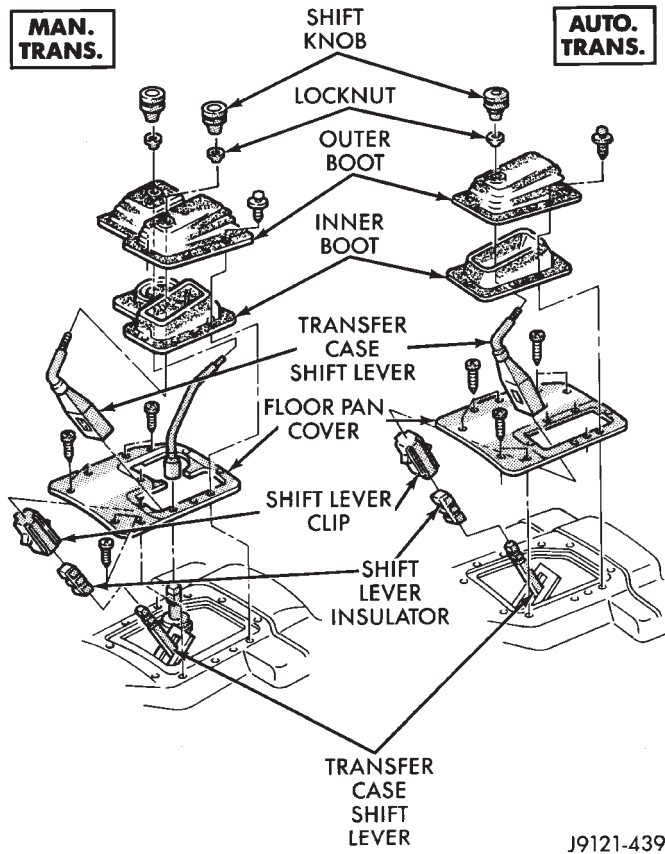
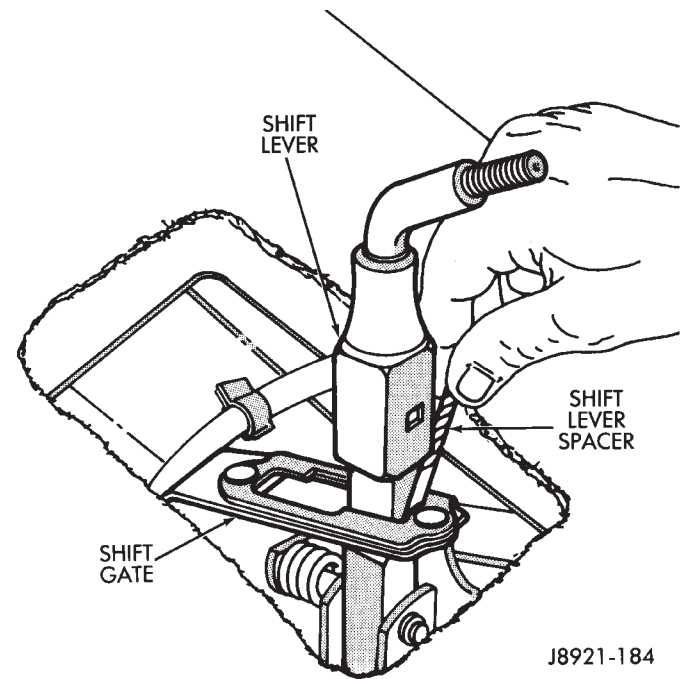
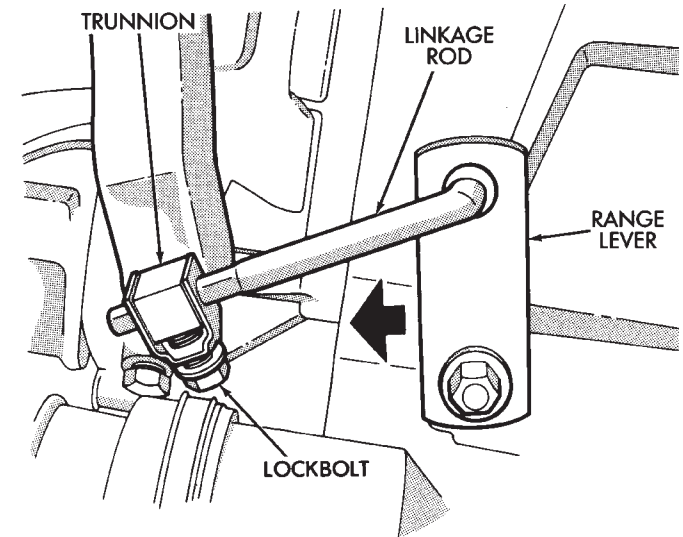

Fig. 4 Transfer Case Shift Lever And Boots—YJ
Fig. 5 Installing Shift Lever Spacer—YJ
Fig. 6 Shift Trunnion Lock Bolt Position—YJ
- (1) Remove transfer case shift knob locknut and remove knob (Fig. 4).
- (2) Remove outer boot attaching screws and remove boot (Fig. 4).
- (3) Remove inner boot attaching screws and remove boot (Fig. 4).
- (4) Move shift lever into 4L position.
- (5) Insert 3 mm (1/8 in.) spacer between shift lever and forward edge of shift lever gate (Fig. 5). Secure lever and spacer in place with tape or wire.
- (6) Secure shift lever and spacer with tape or wire.
- (7) Raise vehicle.
- (8) Loosen lock bolt on adjusting trunnion (Fig. 6). Linkage rod should now slide freely in trunnion.
- (9) Verify that range lever is in 4L position (Fig. 6).
- (10) Position linkage rod so it is a free fit in range lever. Then tighten trunnion lock bolt (Fig. 6).
- (11) Lower vehicle.
- (12) Remove shift lever spacer and install inner and outer boots and shift knob (Fig. 4).